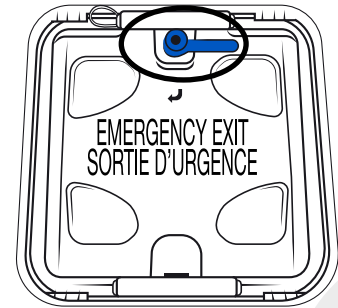

Figure 5 - Emergency roof hatch
Depending on the options and/or regulations, the vehicle may have either no, one or two emergency roof hatch(es) (Figure 5). Some models do not have a roof hatch and will be replaced by a roof vent.
1. Turn the red lever to the left to the end stop (Figure 5).